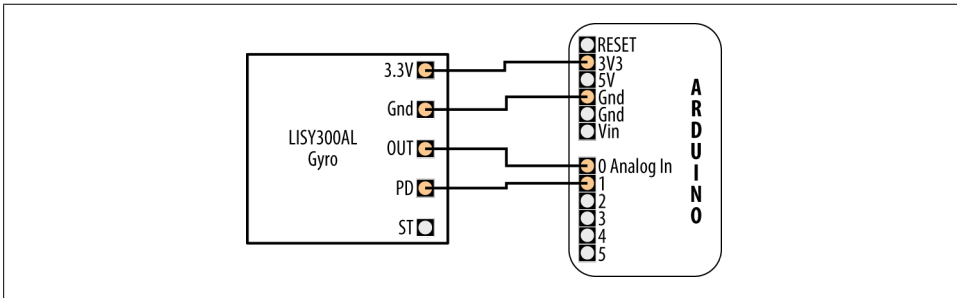

Figure 6-18. LISY3000AL gyro connections
The previous edition covered the LISY300AL gyro, which may now be difficult to obtain. But if you have one, you can use the same sketch if you connect the Power Down (PD) pin to Gnd. Better yet, you can wire the PD pin to an Arduino pin so you can turn the gyro on and off from your sketch. Figure 6-18 shows the connections for the LISY3000AL.